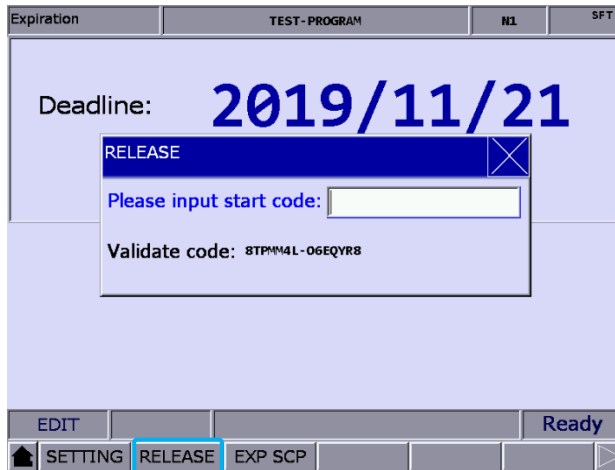

Figure 9.5.4.3
- (1) Press **DGN** to enter the DGN screen.
- (2) Press **PWD** to switch to the function bar of password setting.
- (3) Press **EXPIRE** to display the expiration information.
- (4) Press **RELEASE** and a dialog box appears for you to enter the activation code as shown in Figure 9.5.4.3.
Note: after the time limit is removed, no expiration date is displayed in the Deadline field as shown in Figure 9.5.4.1, which means no time limit is set for the system.